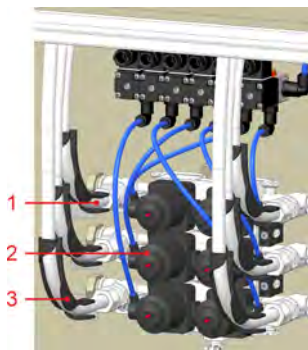

Fig. 6: Diaphragm valve manifold block / machine assignments
1. ➤ As shown in Fig. 6, connect the hoses for connecting the washer extractors to the threaded unions (Fig. 6, no. 1) of the valve block (Fig. 6, no. 2).
2. ➤ Feed the hoses outside via the angle guide (Fig. 6, no. 3).